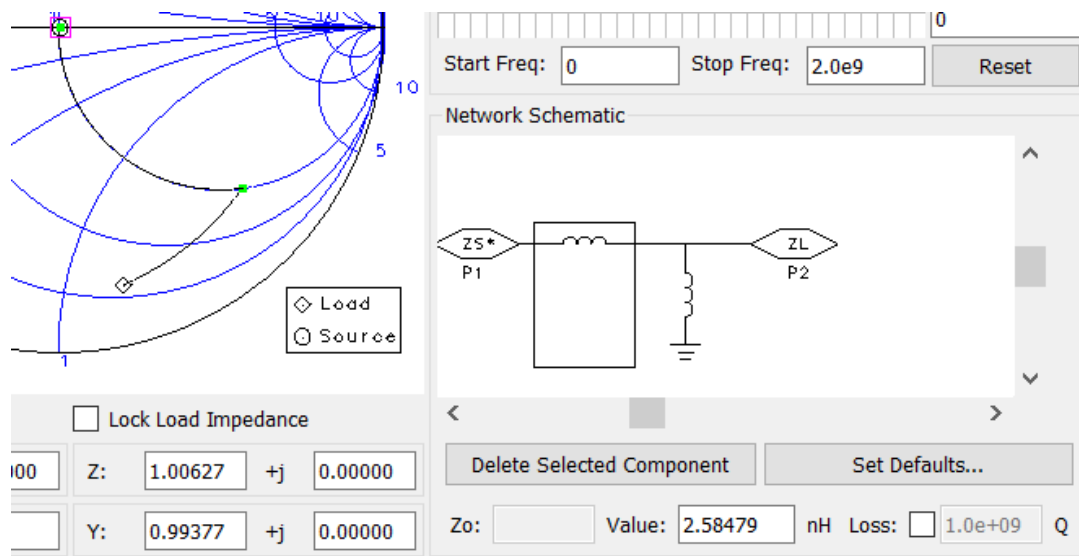

Figure 23. Placing the series resistor
- Select the **series inductor** from the palette. Move the marker along the circle to the center of the Smith chart. Again, left click to place the series inductor, as shown in Figure 23.